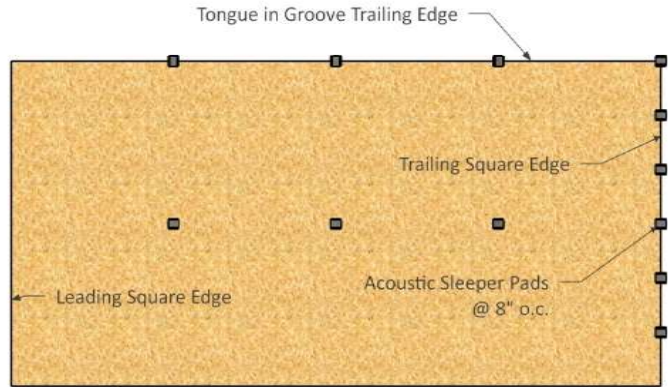

Figure 1: Typical Inverted Plan Detail
- Fig. 1: For wood framing. Typical plan detail has pads at 24" o.c. in the field at trailing T&G edge, and with pads at 8" o.c. at trailing square edge.